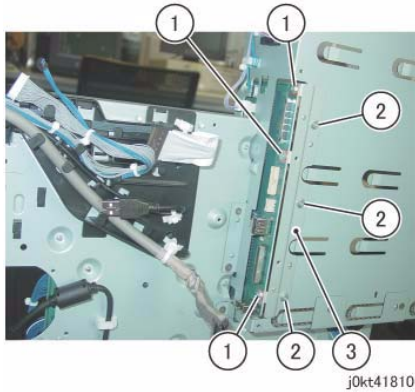

Figure 6 Remove the Bracket
10. Remove the Bracket. (Figure 6)